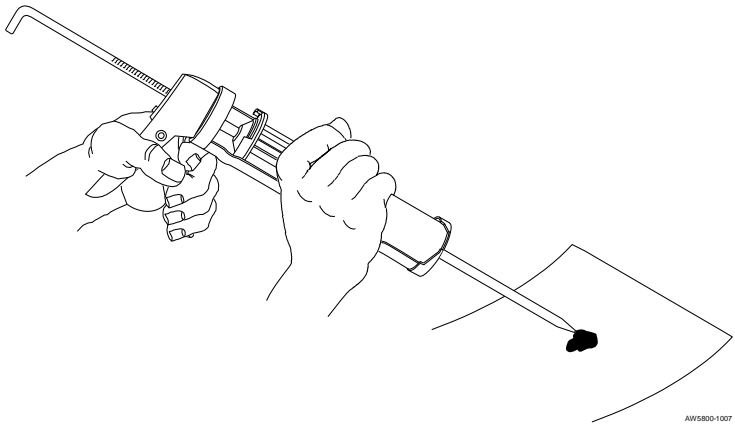

Figure 6. Clearing Duo-pak Adhesive
5. Press trigger and dispense and discard a small amount of adhesive ensuring both sides of the duo-pak glue cartridge are flowing freely. See Figure 6. Trim end of nozzle to allow better flow, if necessary.